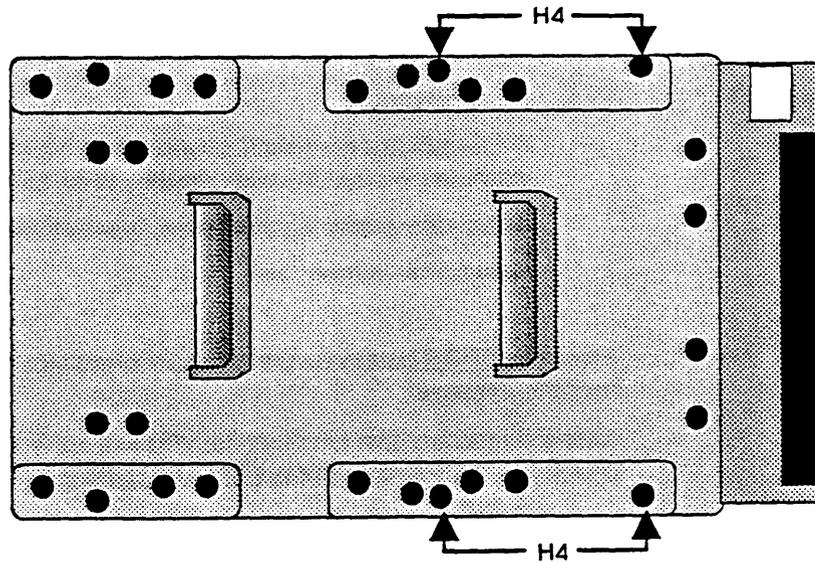

Figure 3-10. Hard Disk Drive Bracket
11. Refer to Figure 3-10. Remove the metal mounting bracket from the old hard disk drive by removing the four screws.